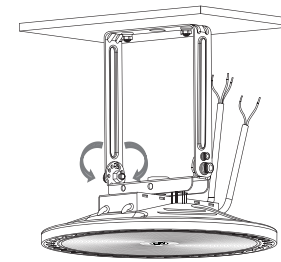

FIG 2.5
4. Adjust the bracket to the required angle (30° for each hole), and tighten the screws (FIG 2.5);